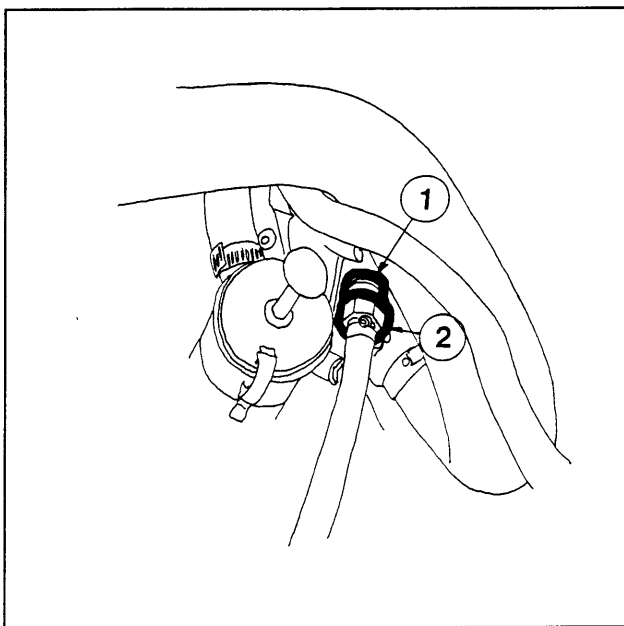

Figure 1
4. Remove the pressure plug located at the top, right of the thermostat. Take one of the 1/2"NPT-3/8"NPT bushings (1) and screw it into the housing. Then, screw one of the 3/8"NPT-3/8"barb 180 degree fittings (2) into the bushing. **REMEMBER** to use a water sealant material around the threads of the bushing and fitting. (see Figure 1)